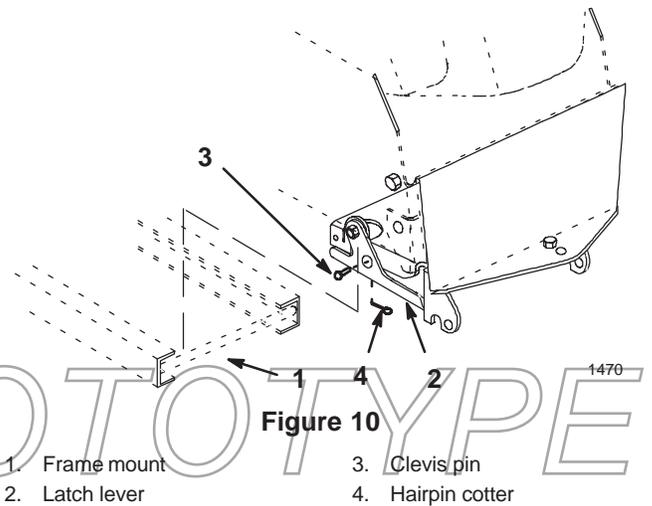

Figure 10
4. Slide frame under tractor and center between rear latches. Open latch levers and lift frame into position. (Fig. 10).
5. Secure latch levers with clevis pins and hairpin cotters (Fig. 10).